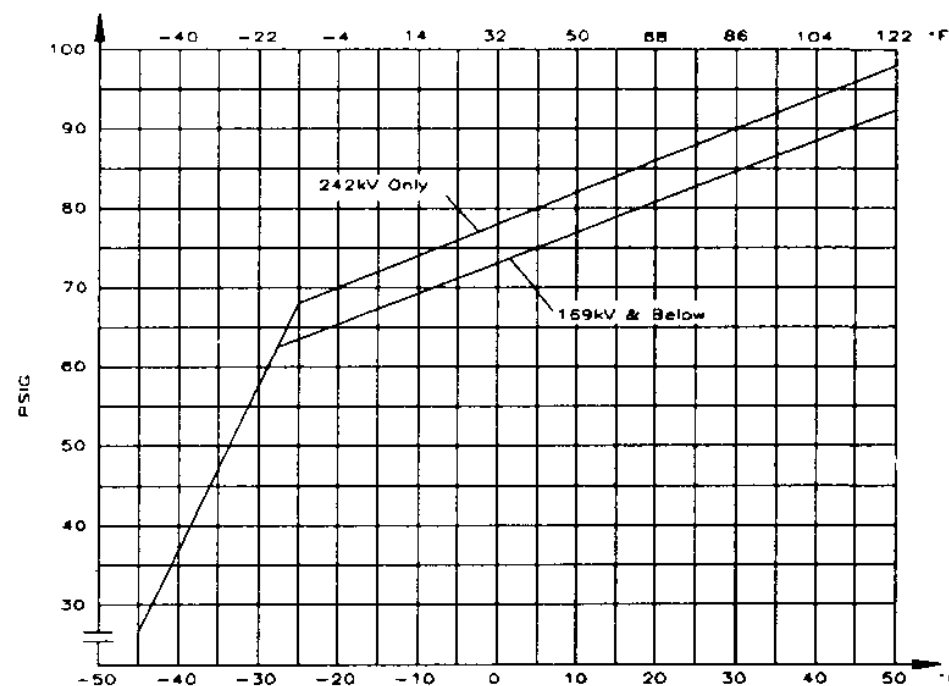

Figure 47 -- Pressure Vs. Temperature Curve
2. Check SF₆ gas pressure and correlate reading with Temperature Vs. Pressure Curve given in Figure 47.